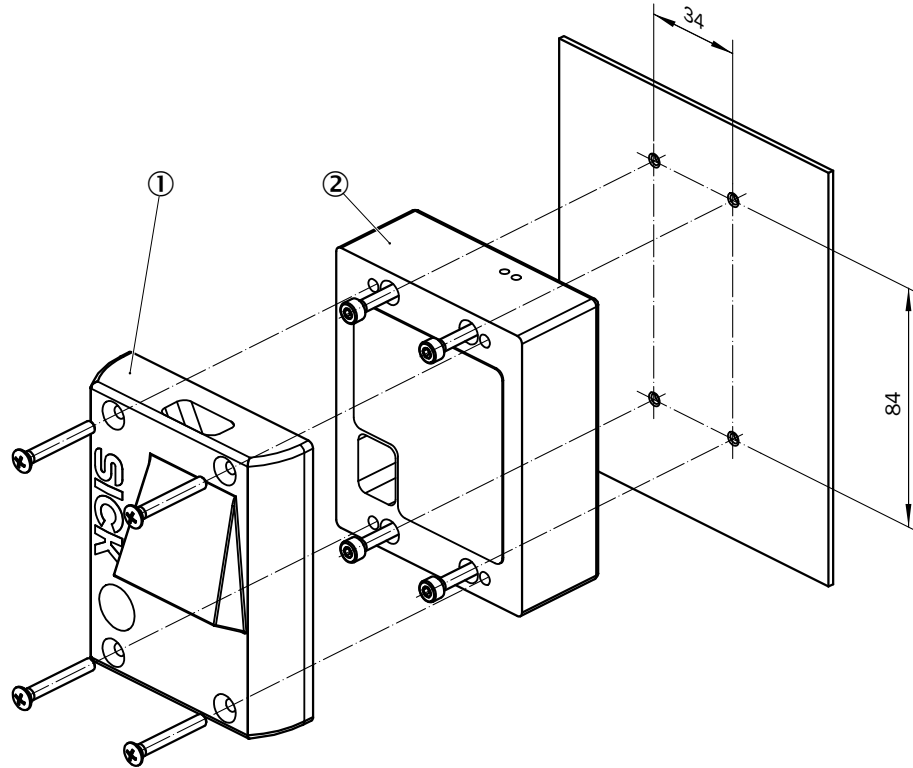

Figure 15: Mounting sketch for the clearance module (mm)
1. Drill the holes for the mounting (see figure 15).
2. Unscrew the cover ① (4x M4 screws).
3. Carefully remove the cover ① with the key holder. Do not pull off the cables.
4. Mount the back of the housing ② (4x M4 screws).
5. Carefully reattach the cover ① with the key holder.
7. Mount the cover ① (4x M4 screws).